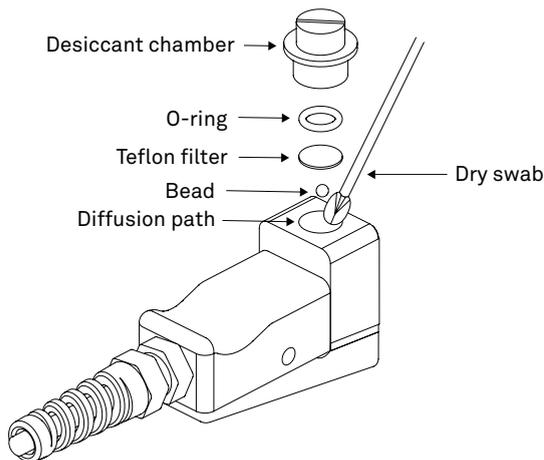

Figure 55 Quick cleaning of the diffusion path
Items in this section are included with the SC-1; please contact Customer Support to order missing or replacement parts. Follow steps 1 through 11 to clean minor contamination in the sensor head (Figure 55).
1. Remove the desiccant chamber (Figure 55).
5. Clean the diffusion path with a dry swab (Figure 55).